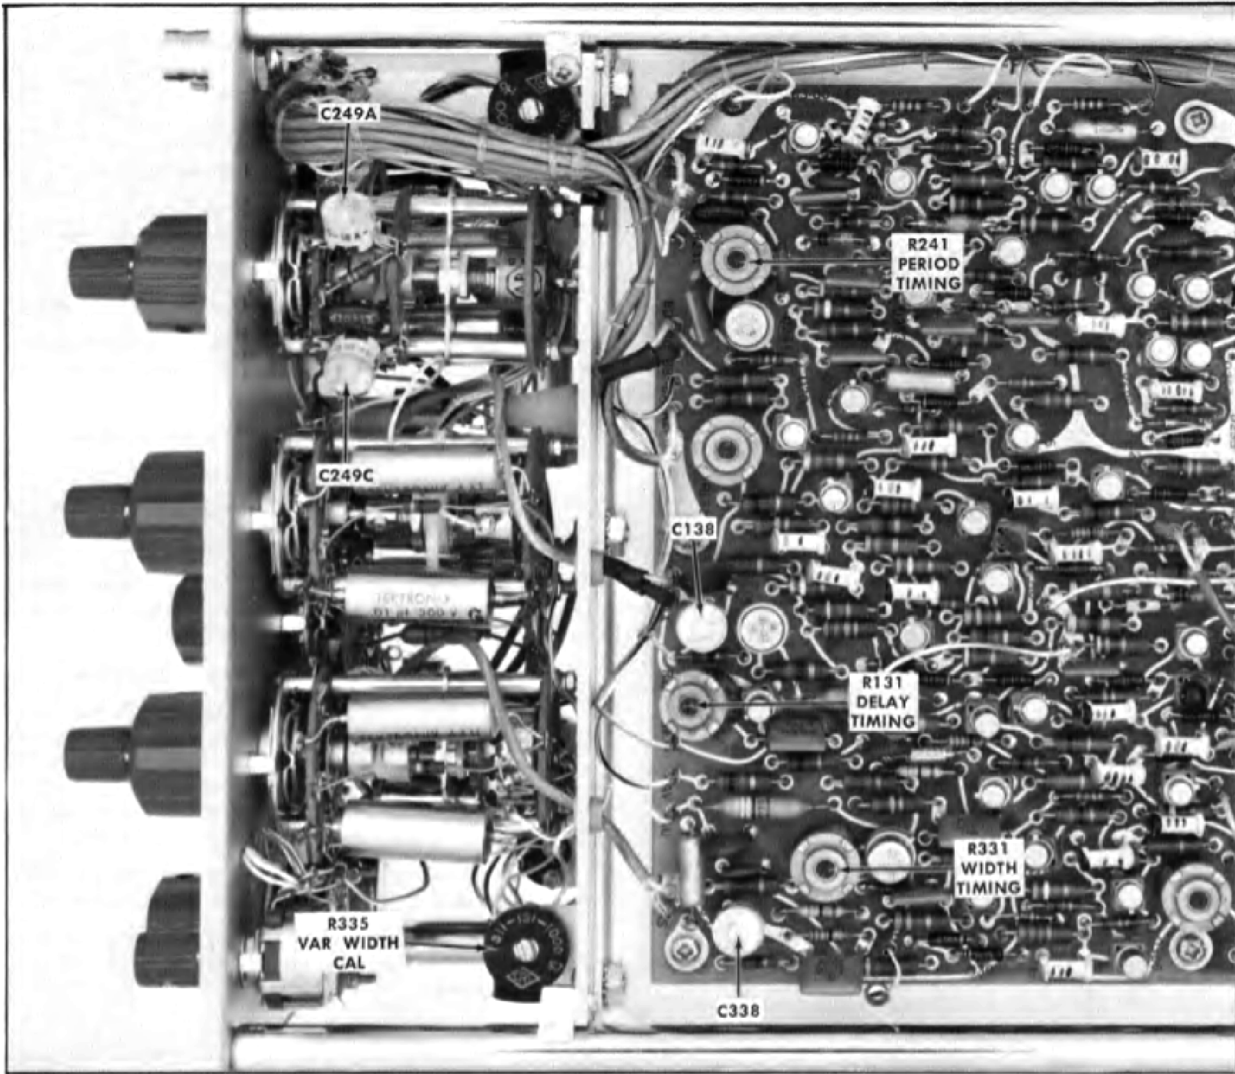
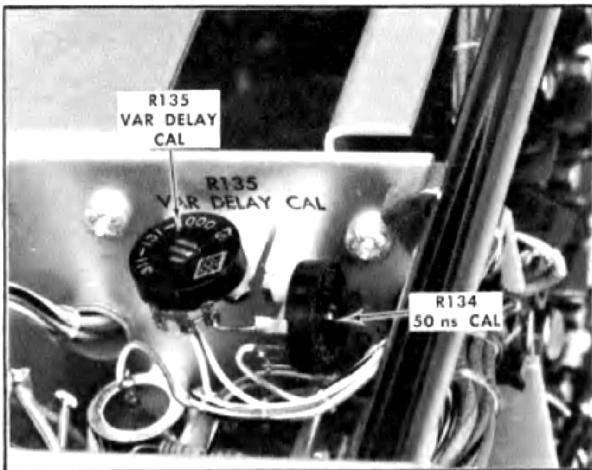

Fig. 5-19. Top circuit board: Location of adjustments used in steps 21 through 25.
Fig. 5-21. Location of delay timing adjustments on the left side of the Type 115 chassis subpanel.
- ADJUST**—R331, WIDTH TIMING adjustment, (see Fig. 5-19) for a pulse width of 550  $\mu$ s (5.5 cm) if the display is not correct.
- ADJUST**—R335, VAR WIDTH CAL adjustment, (see Fig. 5-19) if the display is not correct.
- ADJUST**—C338 (see Fig. 5-19) if the display is not correct.
- f. ADJUST—R131, DELAY TIMING adjustment, (see Fig. 5-19) for a delay interval of 550  $\mu$ s (5.5 cm) if the display is not correct.
- k. ADJUST—R135, VAR DELAY CAL adjustment, (see Fig. 5-21) if the delay interval is not correct.
- v. ADJUST—R134, 50 ns CAL adjustment, (see Fig. 5-21) and C138 (see Fig. 5-19) if the display is not correct.